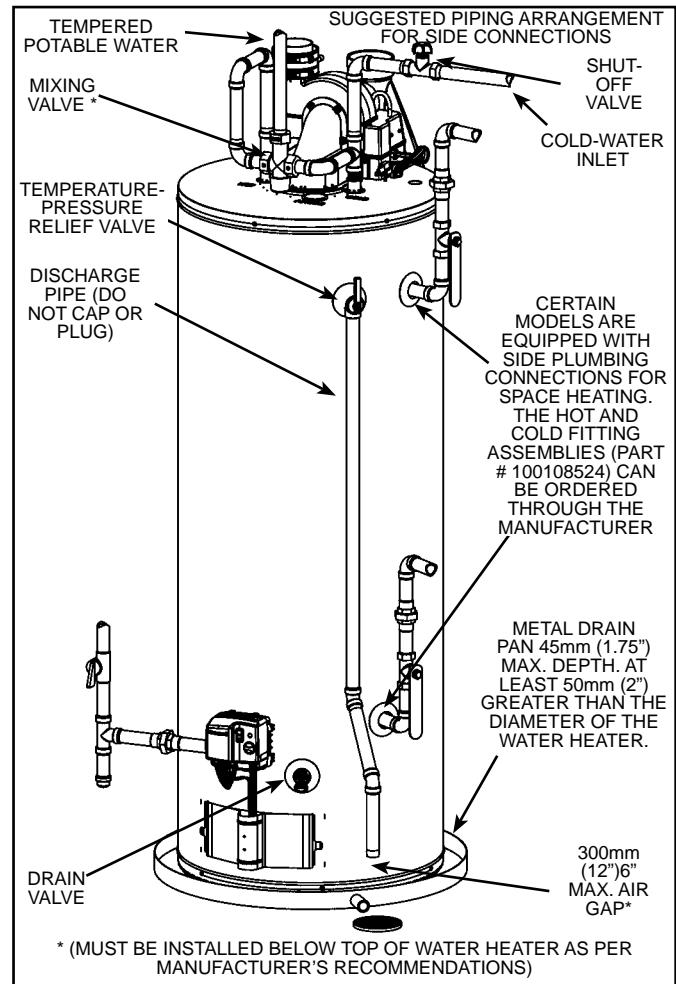

Figure 9.
Models equipped with Combo Heating capabilities are shipped with the two side plumbing taps **PLUGGED** (item 6 and item 9 in Figure 1). See also Figure 9. If the heater is to be operated using the side taps for combo heating, these taps **must be opened** by removing the two pipe plugs.